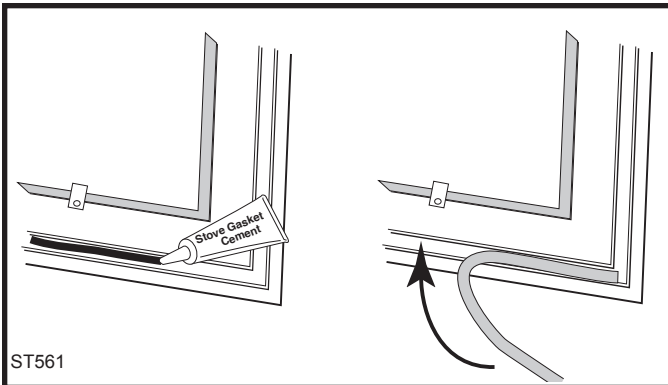

Fig. 45 Lay a bead of gasket silicone or cement then press gasket in place.
5. Lay an unbroken 1/8" (3 mm) bead of silicone or cement in the newly-cleaned channel. (Fig. 45)
6. Starting at one end, press the gasket into the channel. (Fig. 45) Ensure a good joint where the gasket meets before trimming any excess. Do not overlap the gasket ends or leave ends with ragged edges.